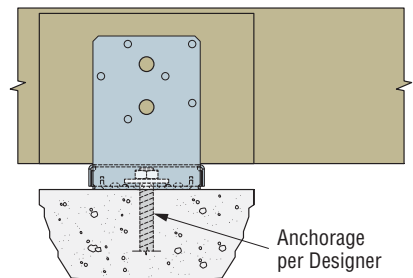

Figure 4 — ABU with Beam Installation
- For applications involving the use of a post base to support a wood beam, refer to engineering letter L-C-ABUBEAM at strongtie.com. (Figure 4)